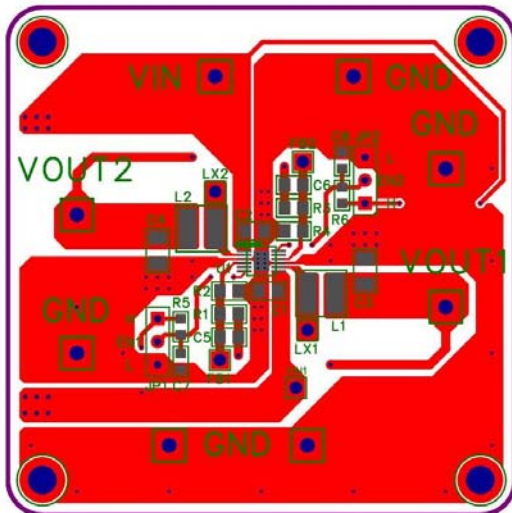

Figure 21. Top Layer Layout
- 5) The following is an example of 2-layer PCB layout as shown in Figure 21 and Figure 22 for reference.